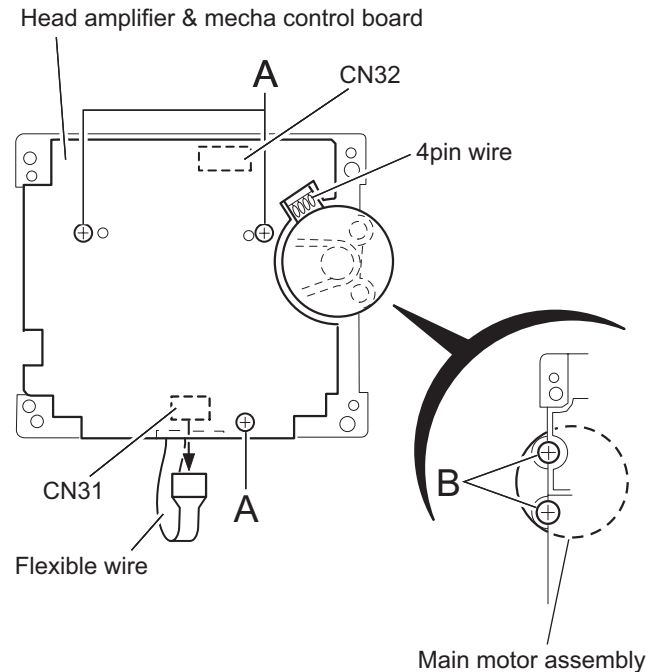

Fig.4
2.2.2 Removing the head amplifier & mechanism control board (See Fig.4)
2.2.3 Removing the main motor (See Fig.4~7)